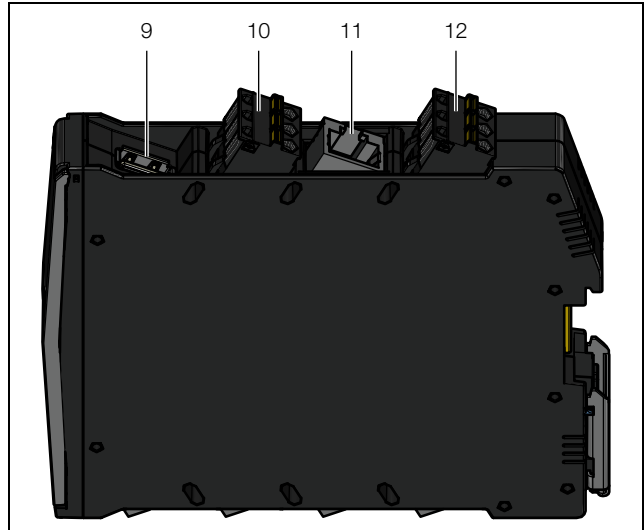

Fig. 5: Top connections on the IoT interface
- To do this, connect the 24 V output (direct connection) on the power pack (DK 7030.060) to the appropriate connection of the IoT interface (fig. 5, item 12).
- If necessary, attach the external temperature sensor 3124.400 to the appropriate connection of the IoT interface (fig. 5, item 10).
- Connect the Ethernet interface (fig. 5, item 11) using a network cable with an RJ 45 connector to the existing network structure.